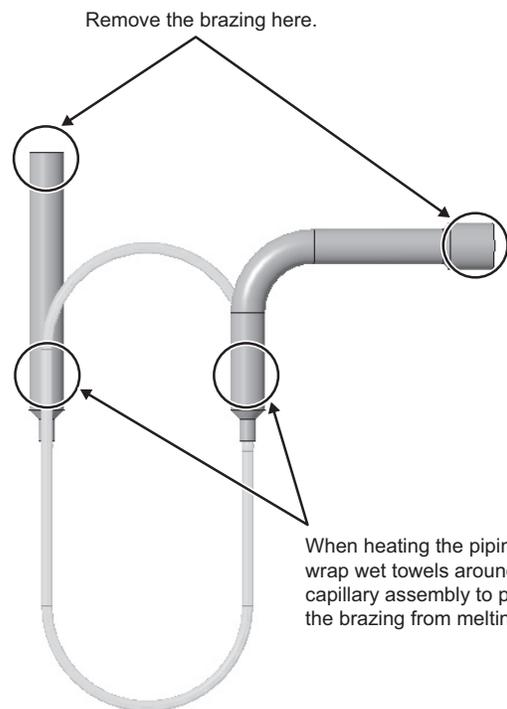

Fig. 2
- (2) When heating the piping, wrap wet towels around the capillary assembly to prevent the brazing from melting. (Two wet towels: Fig. 2)
- (3) Connect the pipes of the capillary assembly. (Two areas to braze: Fig. 2)